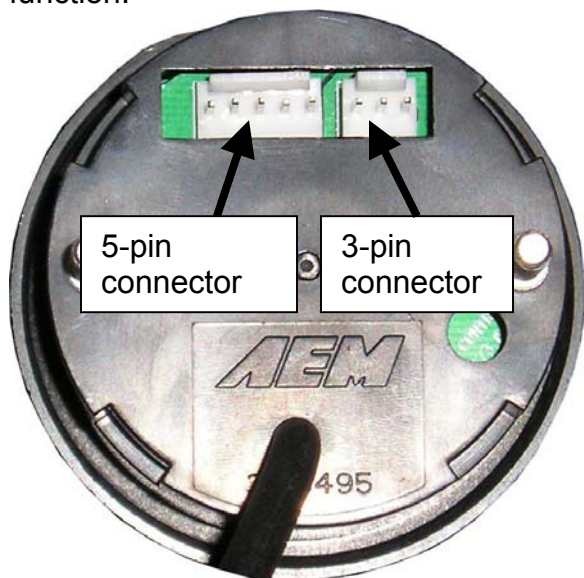

Figure 2. Connector Locations
The AEM Tru Boost boost controller gauge requires a standard 2 1/16" (52MM) mounting hole and can be mounted in a flat panel or most standard gauge pods. The included cable contains two wire bundles and a 5-pin connector. The 5-pin connector connects to a mating 5-pin connector on the back of the gauge. See Figure 2. Connect the black and red wires in the long 2-wire bundle to the leads from the boost solenoid. Polarity does not matter. Connect the black wire from the 5-wire bundle to a good ground. Connect the 2 red wires to a fused, switched, +12Vdc power source. The gray wire is an optional low side driver output. The orange wire is an optional scramble boost input. The orange and gray wires do not need to be connected for the gauge to function.
The Tru Boost is capable of reading boost levels up to 50 psig when using the optional external sensor kit. The 30-4351 sensor kit comes with an AEM 75psia sensor and a harness to connect the sensor to the Tru Boost. See Figure 9. Plug the single row 3-pin connector into the mating connector on the back of the gauge. See Figure 2. Plug the black 3-pin connector into the pressure sensor. In order for the Tru Boost to read the external sensor, the external sensor (E) must be selected in the pressure sensor (SEn) option.